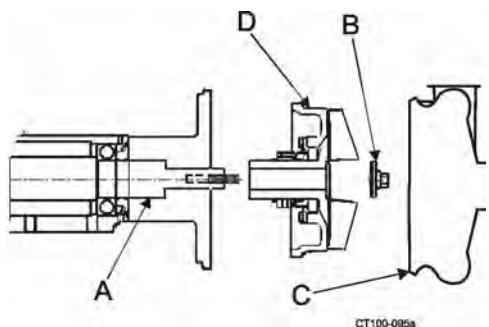

Figure 47 - Removing the Impeller Assembly
4. Remove the casing clamp and casing (Figure 47, item C). Slide the o-ring off the backplate.
5. Remove the impeller retainer nut and shaft o-ring (Figure 47, item B).
6. Pull the impeller/backplate assembly off the bearing housing shaft (See Figure 47, items D and A).